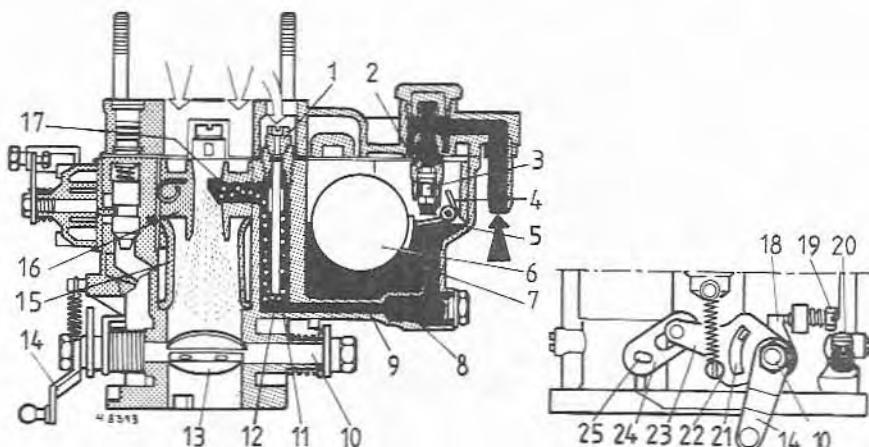

Fig. 6.5 Carburetor normal phase (Sec 3)
Refer to Fig. 6.5 and note that fuel from the float chamber (7) passes through the main jets (8) and channels (9) to the